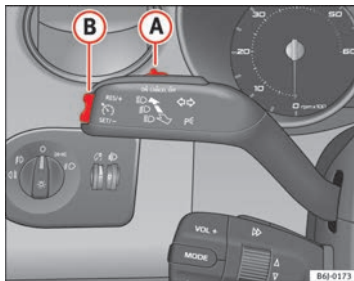

Fig. 111 Turn signal and main beam headlight lever: switch and rocker switch for the cruise control
- Move the control  fig. 111 **A** to the left to **ON**.